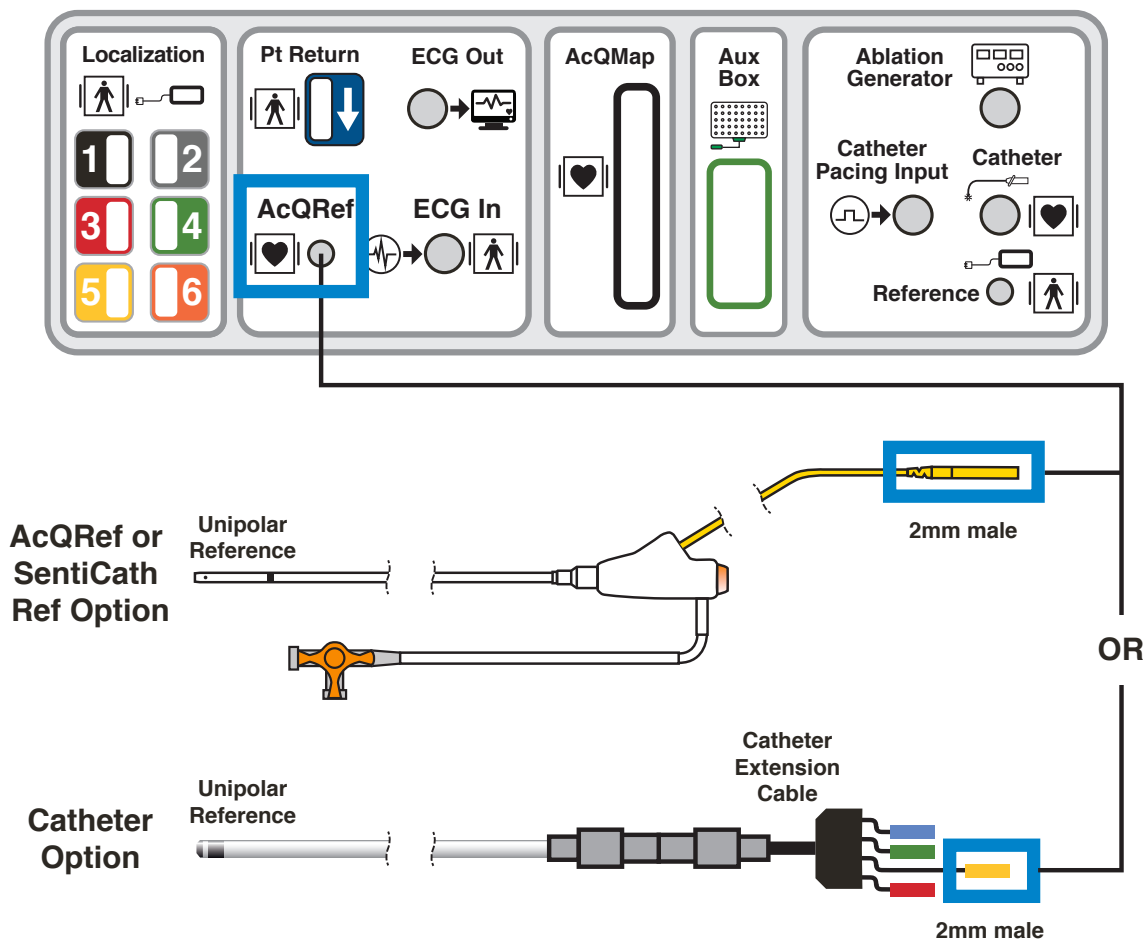

Figure 5-2. Electrical Reference Catheter specifications and connections.
1. Insert an Electrical Reference Sheath (AcQRef Introducer Sheath or SentiCath Ref Introducer Sheath) or Catheter into the right or left femoral vein per standard laboratory procedure. Refer to Chapter 5, *Figure 5-2* for recommended sheath/catheter/electrode requirements.